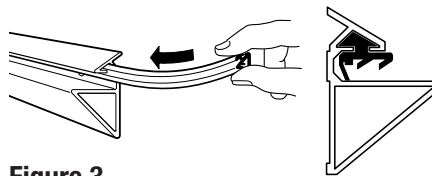

Figure 3
Step 6: Insert rubber cushion strip into top lip of the shelf bracket. Make sure that the large flap is toward the wall, as shown in **Figure 3**.